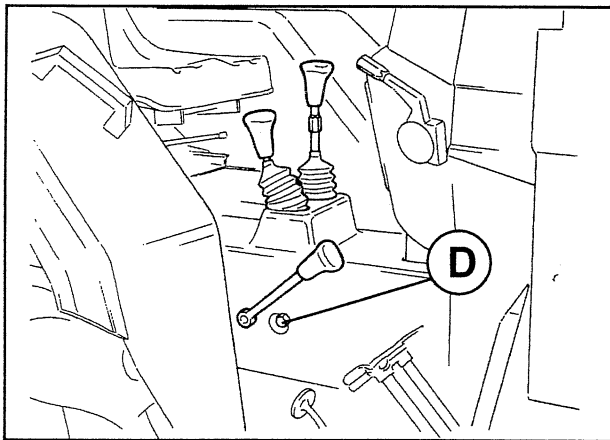

Fig. 51 Gearbox oil level cap.
- b) Air in the power lift hydraulic circuit. This problem is easy to check because it causes the oil in the front gearbox to emulsify and increase in volume. This can be seen when taking out the oil filler plug D (Fig. 51).